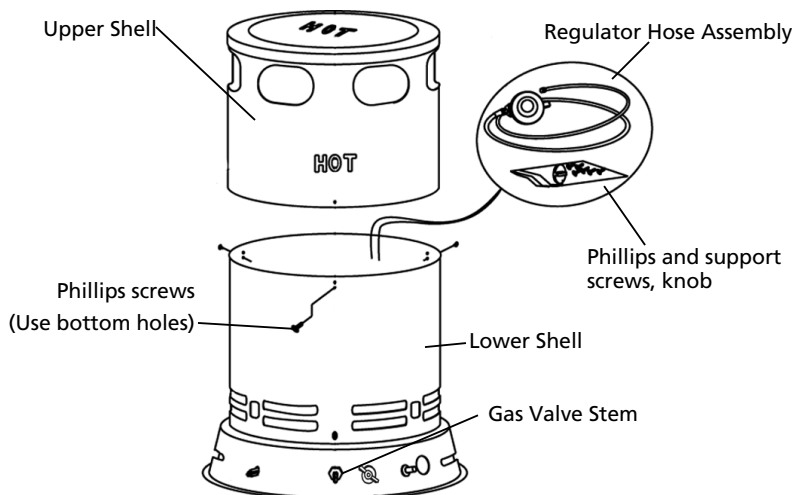

Figure 5 – Removing Hose Assembly - Screw Placement
5. Screw four (4) Phillips head screws into place in bottom holes at top of lower shell.
7. For 6BY73A, attach knob to gas valve stem (Figure 5).